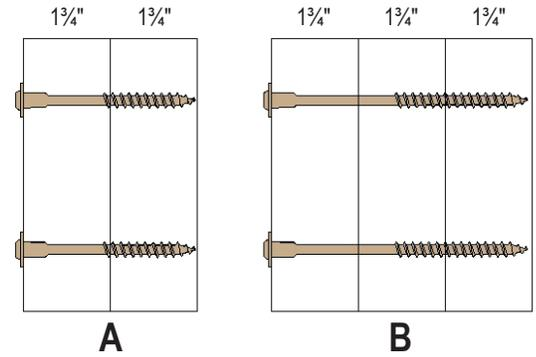

FIGURE 3. SCL Assembly Configurations
SCL allowable lateral design values are provided in Tables 5 and 6 for assemblies with two- or three-ply 1 3/4" members (as shown in Figure 3).
2. SCL shall have an SG of 0.50 or greater. Thicknesses listed in Figure 3 are a minimum.